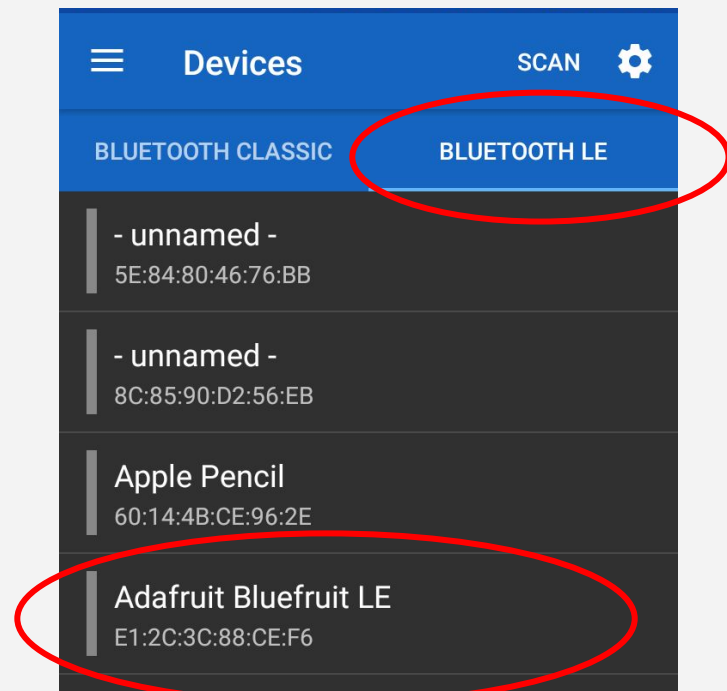

Figure 9
6. Ensure you are in Bluetooth LE, and connect to Adafruit Bluefruit LE (figure 9)
7. Enter Serial commands (figure 9). Full list of available commands listed on p.11&12. Ensure all spelling and punctuation is exactly as shown in instructions. Changes are automatically saved.